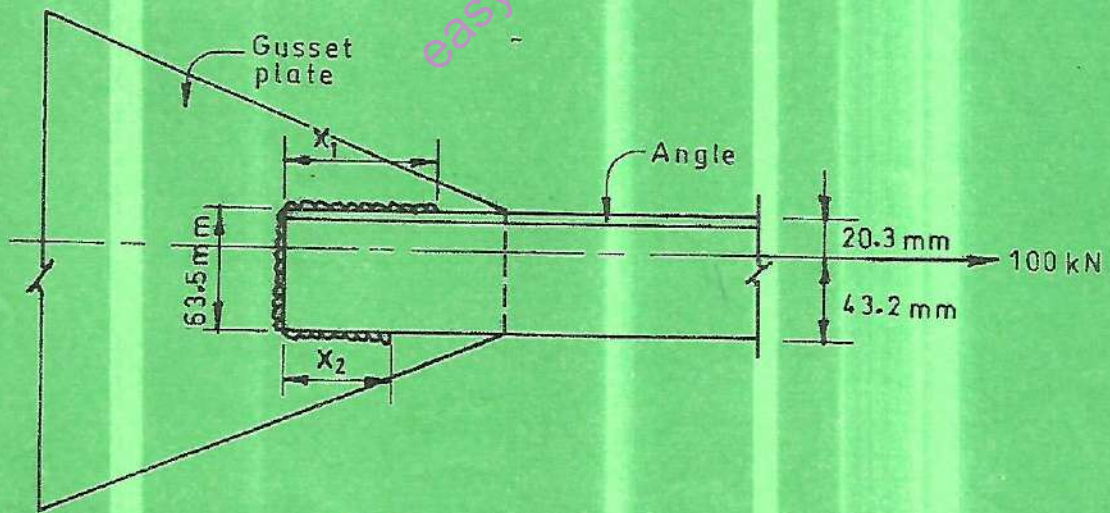

Fig. 6
7. (a) **Figure 6** shows a welded connection for an angle using 6 mm fillet weld of strength 483 N/mm^2 . Design the weld for direct shear. The load is acting through the centroidal axis of the angle as shown. (4 marks)